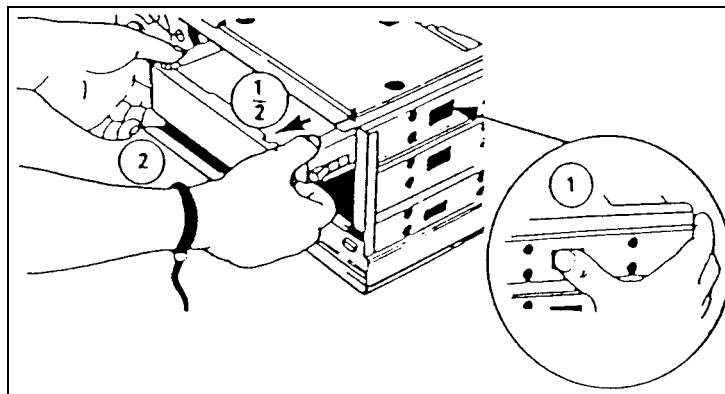

Figure 7-14. Removing the Floppy Disk Drive
3. Depress the latches on each side of the floppy drive (Figure 7-14) and slide the floppy drive half way out of the top shelf. Make a written note of the orientation of the cable connectors, unplug them and remove the floppy drive.